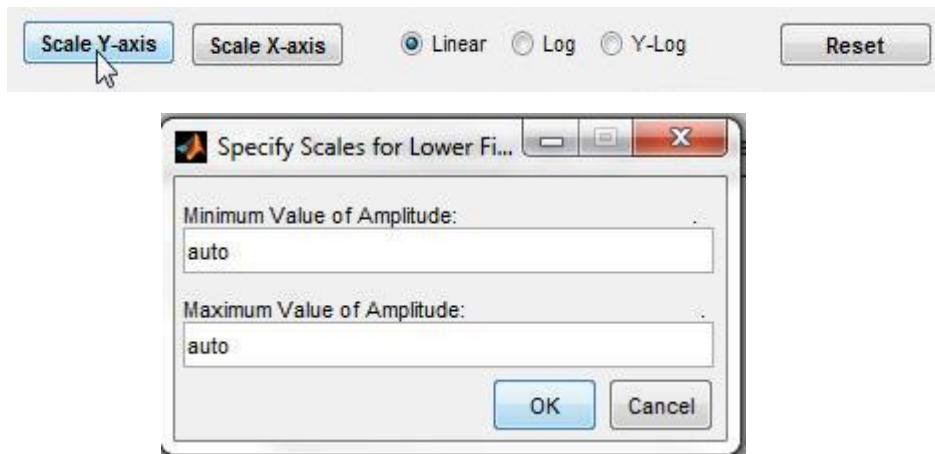

Figure 5-18. Rescaling the PSD amplitude.
Step 1: Click the **Scale Y-Axis** button to open a text field window as shown in Figure 5-18: